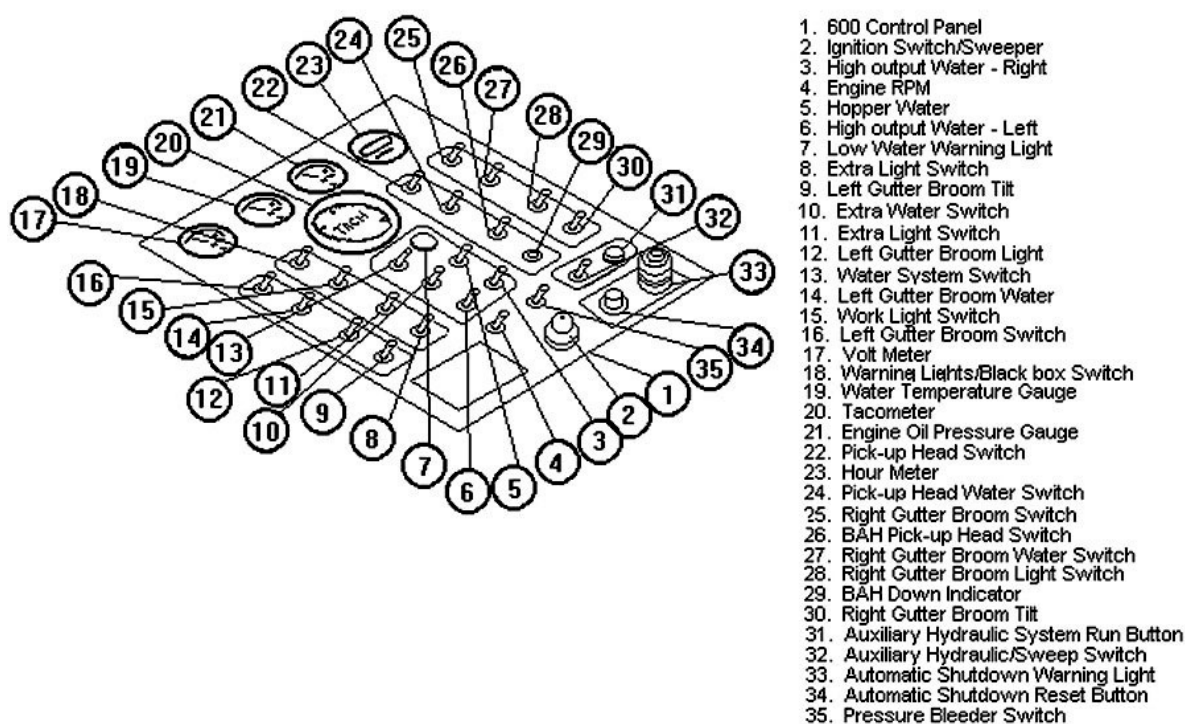

Figure 3-2. Control panel assembly.
Both the carrier and sweeper unit are equipped with diesel engines. The type of carrier engine varies depending on the truck manufacturer, while the auxiliary engine is an in-line four cylinder. They both draw their fuel from the same tank; the auxiliary engine will run out of fuel first. The auxiliary engine is located behind the cab and in front of the hopper. The carrier engine provides power for the carrier only, while the auxiliary engine drives the blower and the hydraulic pump for the system. All gauges and necessary components to start and monitor the auxiliary engine are on the control panel (fig. 3-2). The central location of the control panel allows the operator to conveniently operate the entire system from either side of the truck cab.
The system employs a circuit breaker with a built-in 30-second timer. With the sweeper engine ignition switch placed in the ON position (engine off), a red light will start blinking. After 30 seconds, the red reset button next to the ignition switch will pop up (fig. 3-2, item 34).